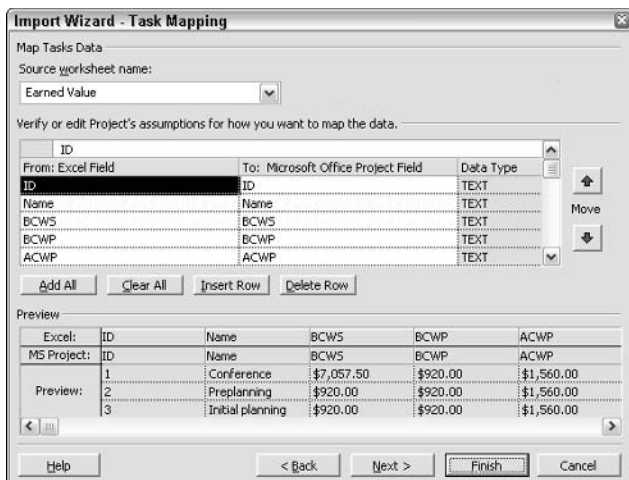

Figure 26-25: The Task Mapping dialog box shows the fields that Project expects to import from your workbook.
- Click Next. If necessary, make changes to the Task Mapping dialog box, as shown in Figure 26-25. Select the Source worksheet name; Project attempts to resolve the column names in the worksheet with Project fields. Look for fields that have “(not mapped)” in the To: Microsoft Office Project Field. Type in the Project field name or select it from the list that appears when you click in the To: Microsoft Office Project Field. You should also verify the mapping of all fields the first time you use a new Map. If you used Name in Excel as the column title, you will get unexpected results, because Project uses Resource Name and Task Name, but not Name.